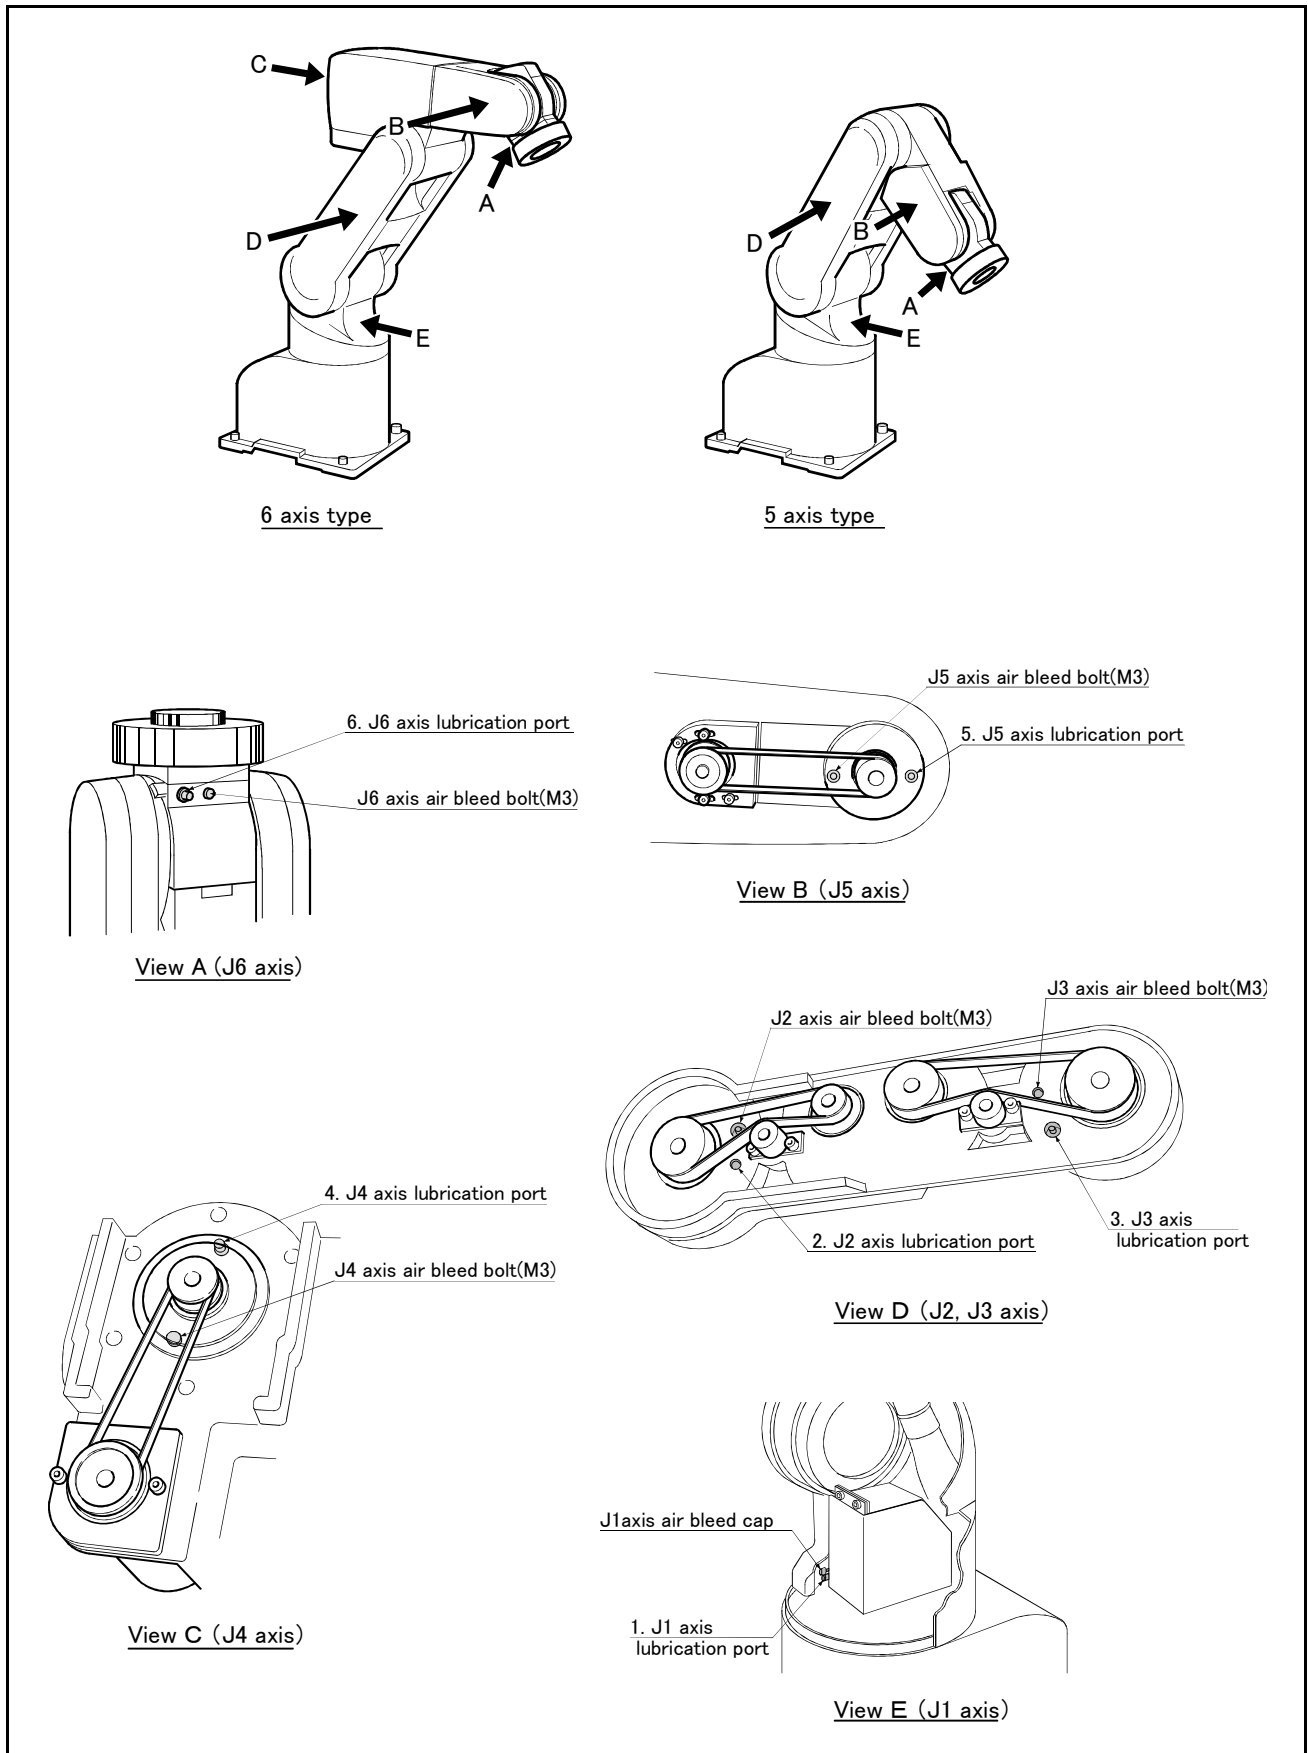

Fig.5-11 : Lubrication positions
The grease nipple position is shown in Fig. 5-11. The lubrication specifications for each place are shown in Table 5-5. Before lubricating, refer to "Fig. 5-4Installing/removing the cover (5-axis type)" on page 44 for the 5-axis type, and "Fig. 5-5Installing/removing the cover (6-axis type)" on page 44 for the 6-axis type, and remove the required covers.
- The numbers in the Table 5-5 correspond to the supply positions in Fig. 5-11.
(2) Lubrication method